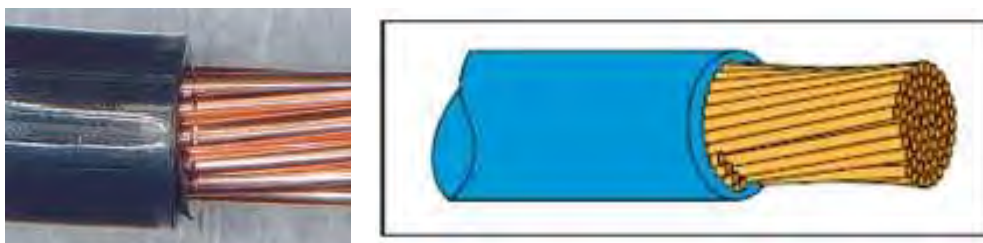

Figure 11
(15) Inspect wire strands as follows:
a. Broken, nicked, or cut strands as listed below and shown in Figure 11.